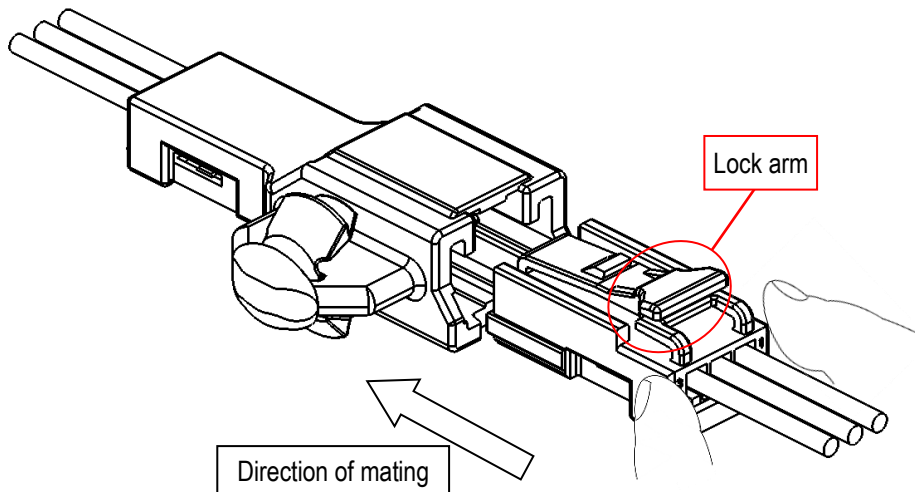

Fig37.Direction of mating
① Once the secondary lock part have been installed, push the connector in the direction of mating until the connector makes an audible click (see Fig. 37).